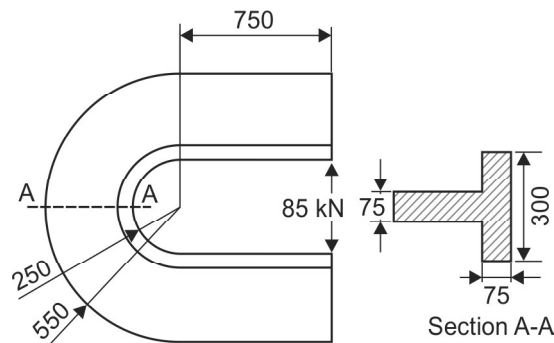

Fig. M1.17
b. Fig. M1.17 shows a frame of a punching machine and its various dimensions. Determine the combined stress at the inner and outer fibers. Also find the maximum shear stress and its location. Take the force as 85 kN. (15 Marks)